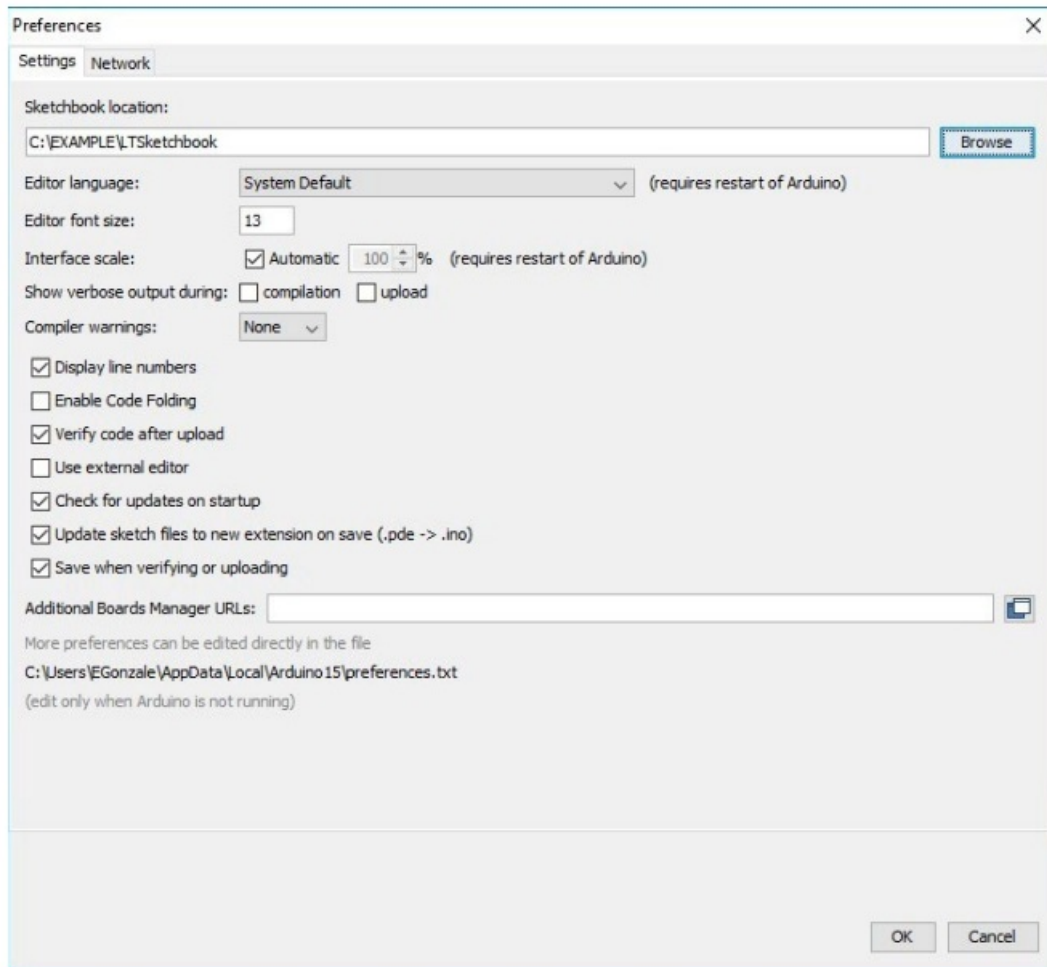

Figure 4. Sketchbook Location Path
2. Set the Arduino IDE to open BMS Sketchbooks. From within the Arduino IDE, click on File menu select Preferences. Then under Sketchbook location: select Browse and locate the path to the extracted LTSketchbook.zip file that was downloaded (see Figure 4).